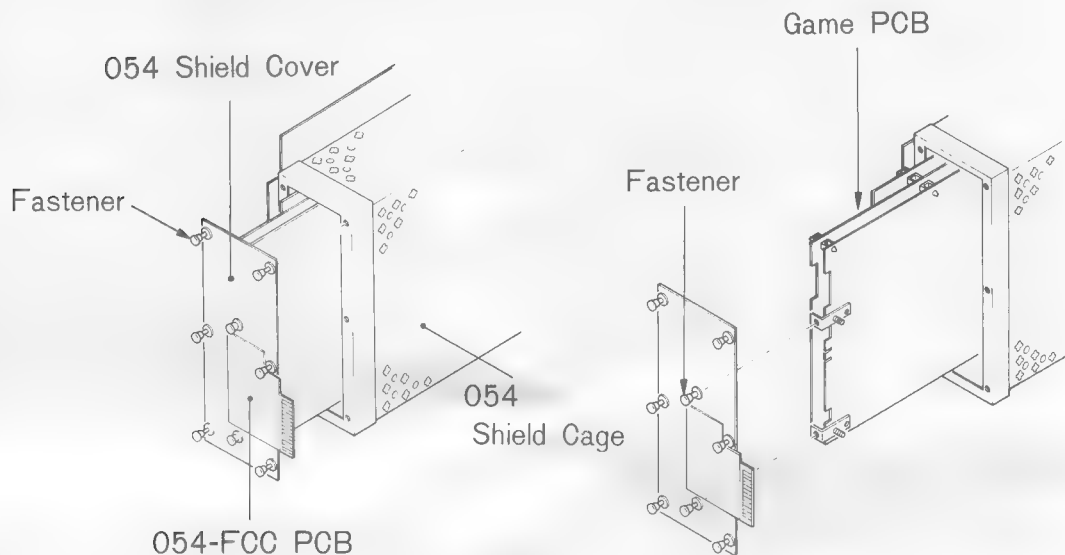

Fig. 15 Game PCB Removal
- (d) Pull out 6 Fasteners located on perimeter of the 054 Shield Cover. See Fig. 15.
- (f) Pull out 2 Fasteners in the middle of the 054 Shield Cover. The Game PCB can now be removed. See Fig. 15.
- (e) After servicing the Game PCB, shut the 054 Shield Cover completely with the Fasteners. See Fig. 15.